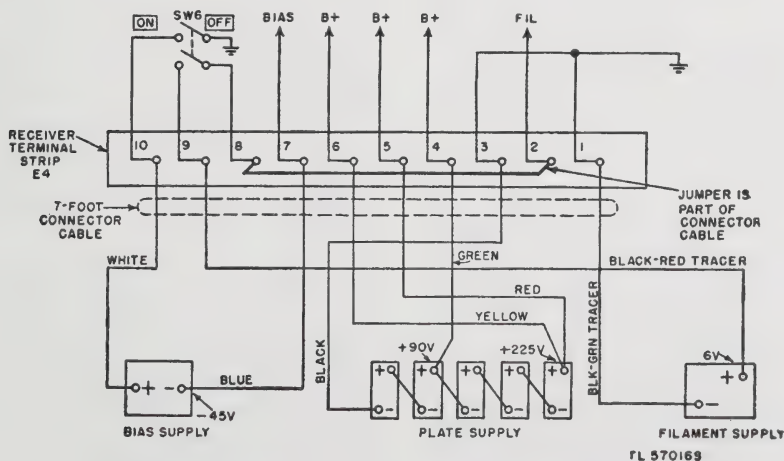

Figure 35. Connections for battery operation, functional diagram.
a. Although primarily designed for a-c operation, in an emergency the receiver can be operated from a 6-v storage battery, five 45-v plate supply batteries, and a 45-v bias battery. The 7-foot connector cable which is supplied for battery operation is connected as shown in figure 35. One end of the cable is provided with a terminal strip which connects to the terminal strip on the receiver. Terminals 2 and 8 of the connector cable terminal strip are shorted.